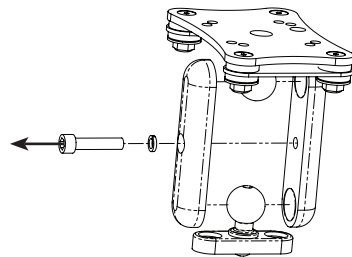

Figure 1
2. Using the *5/32" Hex Key*, remove the *Positioning Screw* and *Positioning Lock Washer* to disassemble the mount as shown in Figure 1.